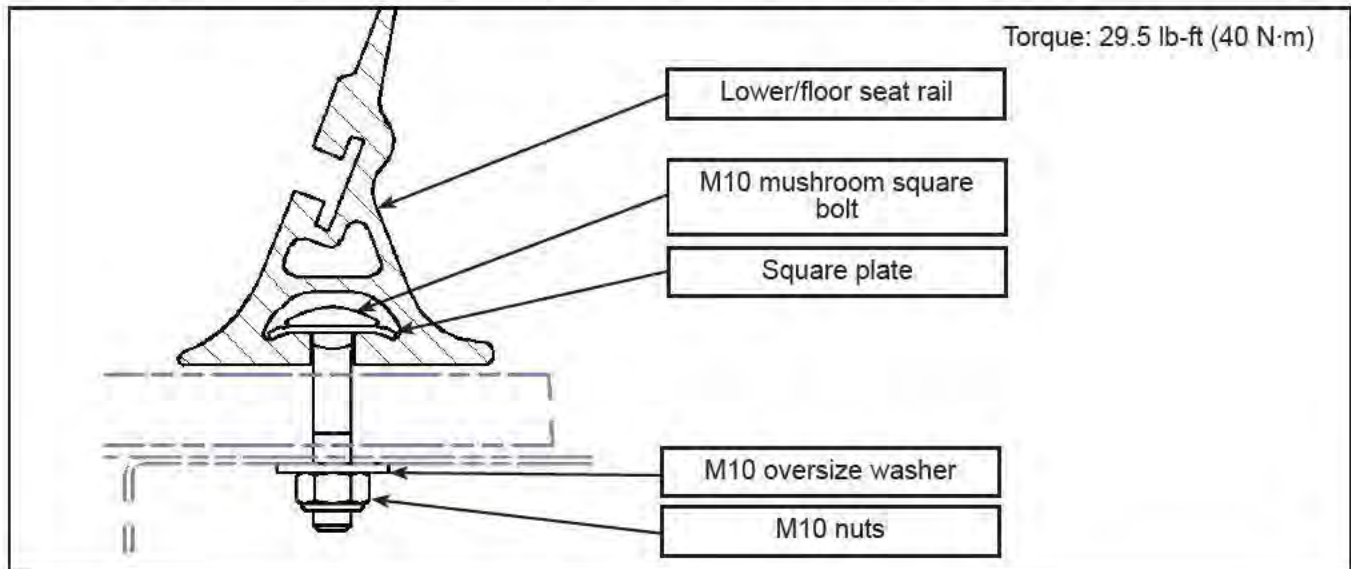

Figure 12 - Lower/Floor Seat Rail
- e. Torque the nuts to the torque value show in Figure 12 and apply torque seal on nuts.